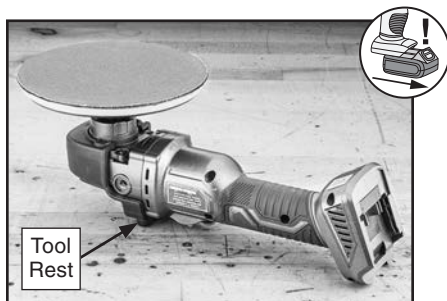

Figure 11. Tool placed on tool rest.
2. Place tool on tool rest with backing pad upright (see **Figure 11**).